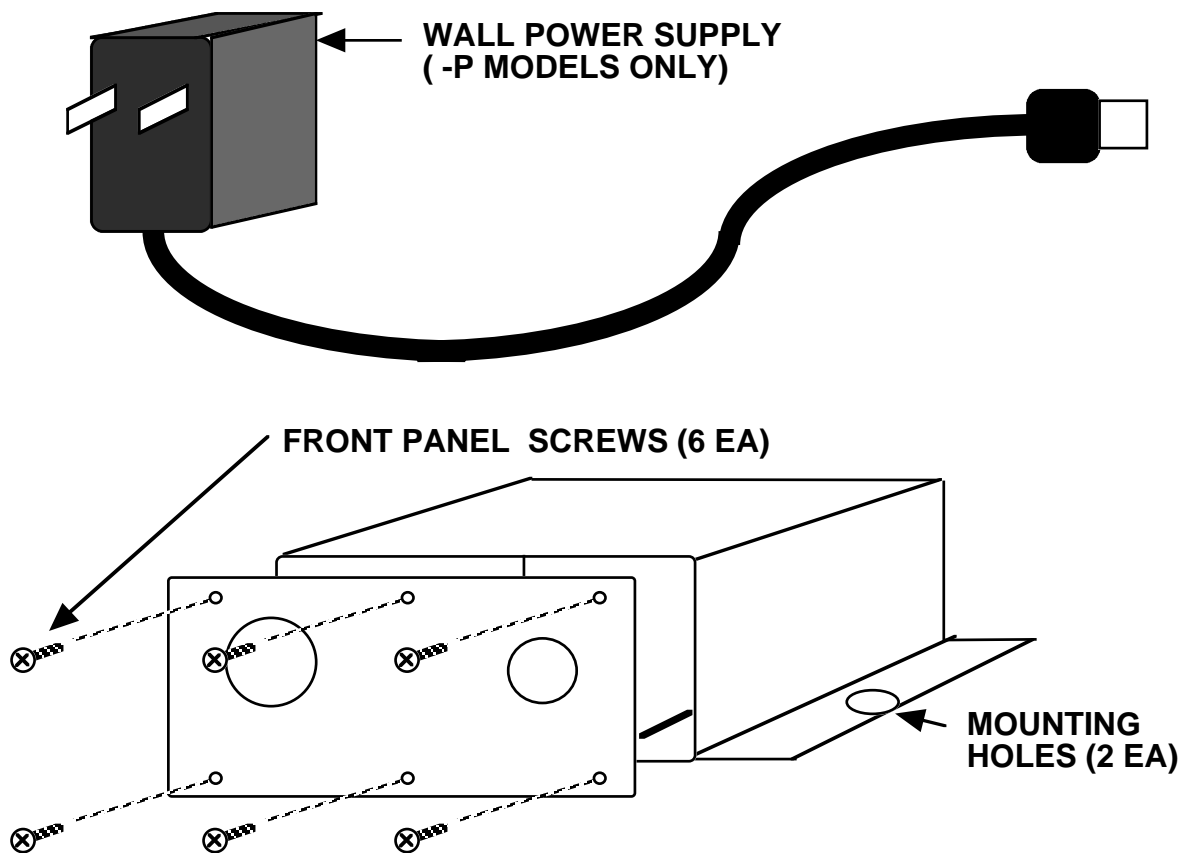

FIGURE 2.1 2006-103 Assembly Drawing
2.1 Mechanical - The 2006-103 is packaged in an aluminum chassis. The unit can be mounted to a panel using the 2 holes at the bottom side flange. The unit derives +DC (+14 to +20 VDC) from the RF out center conductor or +15 VDC from a wall mount power supply for the -P models. (See Figure 2.1 and Figure 2.2).
- 1) Secure the 2006-103 to a panel using the two bottom mounting holes (see Figure 2.1 and Figure 2.2).